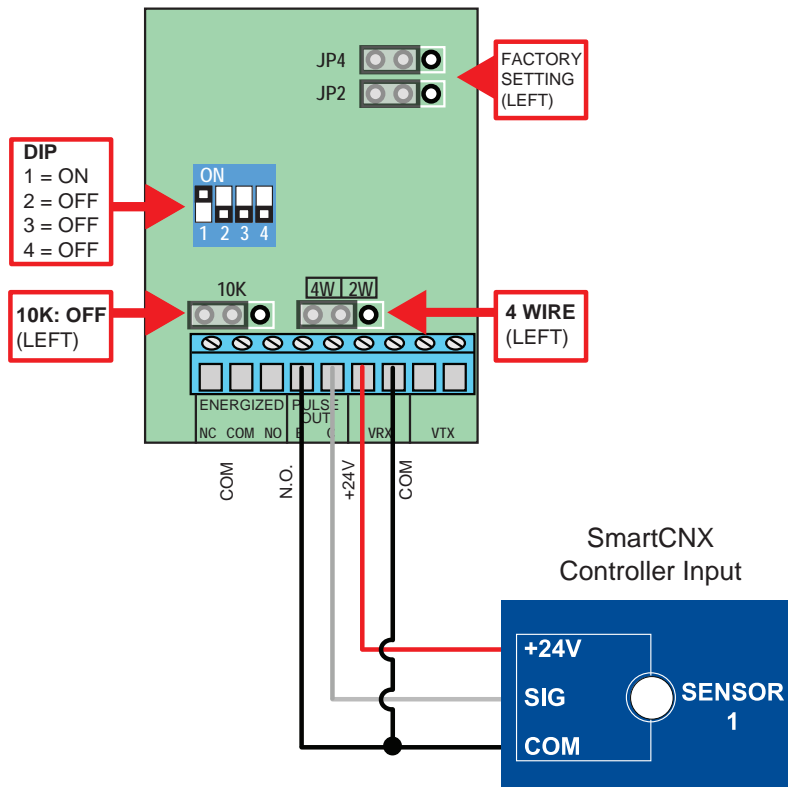

Figure 54. EMX IRB-RET Wiring - 10K OHM Resistive (Top) and 4-Wire Pulsed (Bottom)
**NOTE:** Set board as shown in red boxes per Figure 54. Jumpers are three pin type, and placed LEFT or RIGHT as indicated.